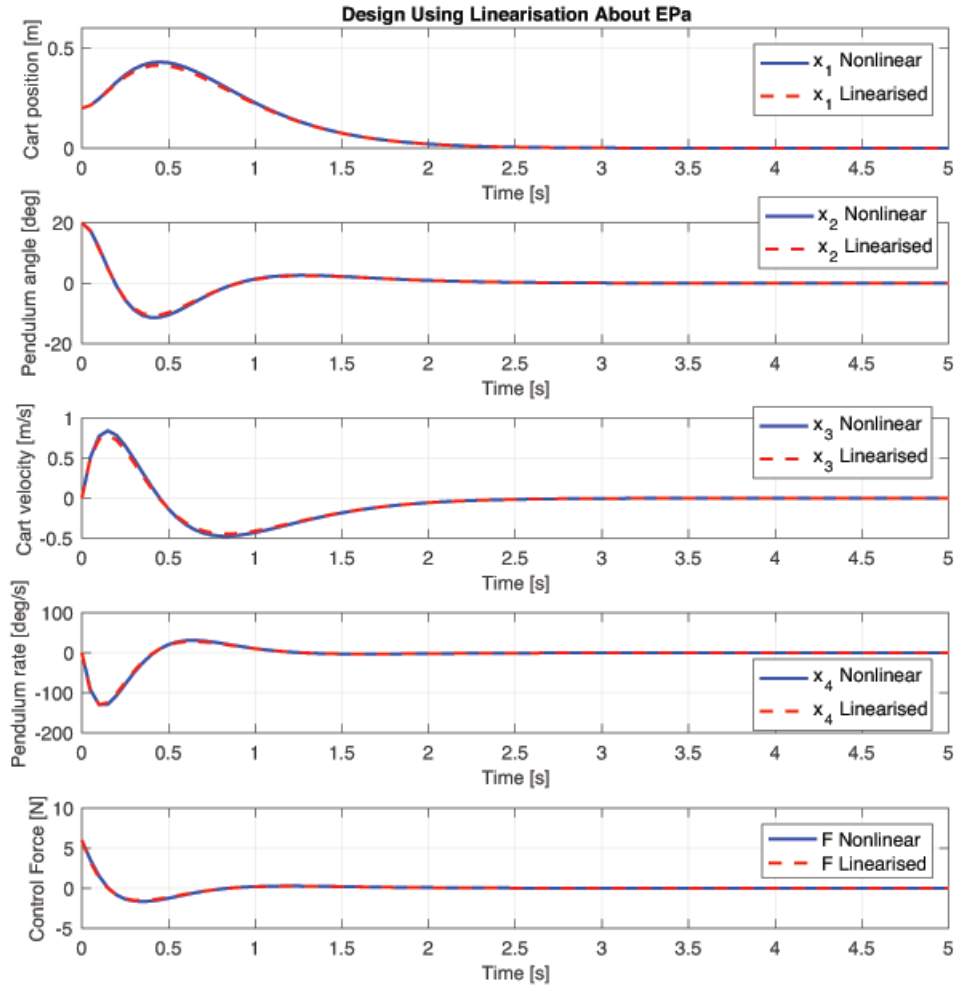

Figure 4: Time histories of the states and input.
- f) Plot the results of the simulations in a figure that shows the time histories of the position of the cart, the angle of the pendulum, the velocity of the cart, the angular velocity of the pendulum and the control forces for both the linearised and nonlinear control systems. An example of the simulation results is shown in Figure 4.